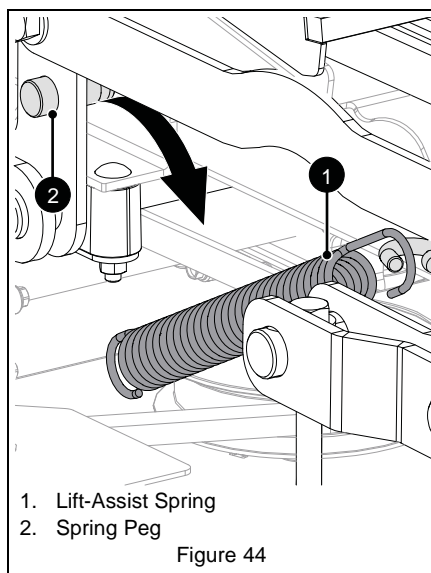

Figure 44
5. *Model 991145 Only:* Slowly disconnect lift-assist springs from spring peg on each side of deck. See Figure 44.